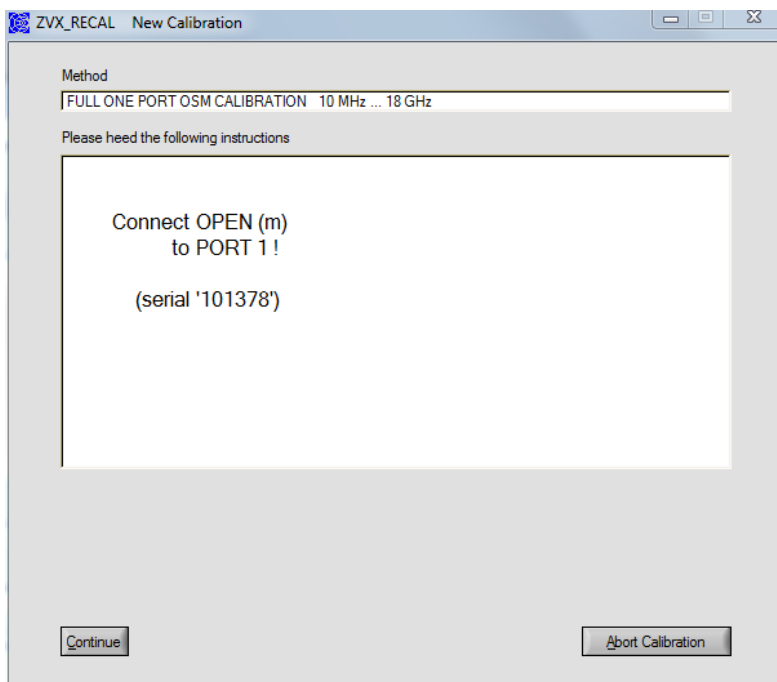

Fig. 6-6 Prompt to connect the first calibration standard
- Initiate the calibration by pressing the **Start** button. A window like the one in Fig. 6-6 will appear with a prompt to connect the first calibration standard